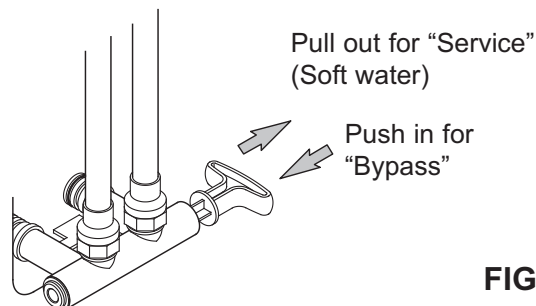
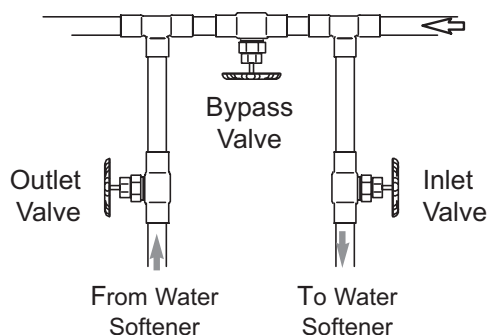

FIG. 6
FIG. 7
Always install either a single bypass valve (provided), as shown in Figure 6, or, if desired, parts for a 3 valve bypass system (not included) can be purchased and assembled, as shown in Figure 7. Bypass valves allow you to turn off the water to the softener for maintenance if needed, but still have water in house pipes.
2. Place the bypass valve (single or 3 valve) into the “bypass” position. See Figures 6 & 7 on Page 7.